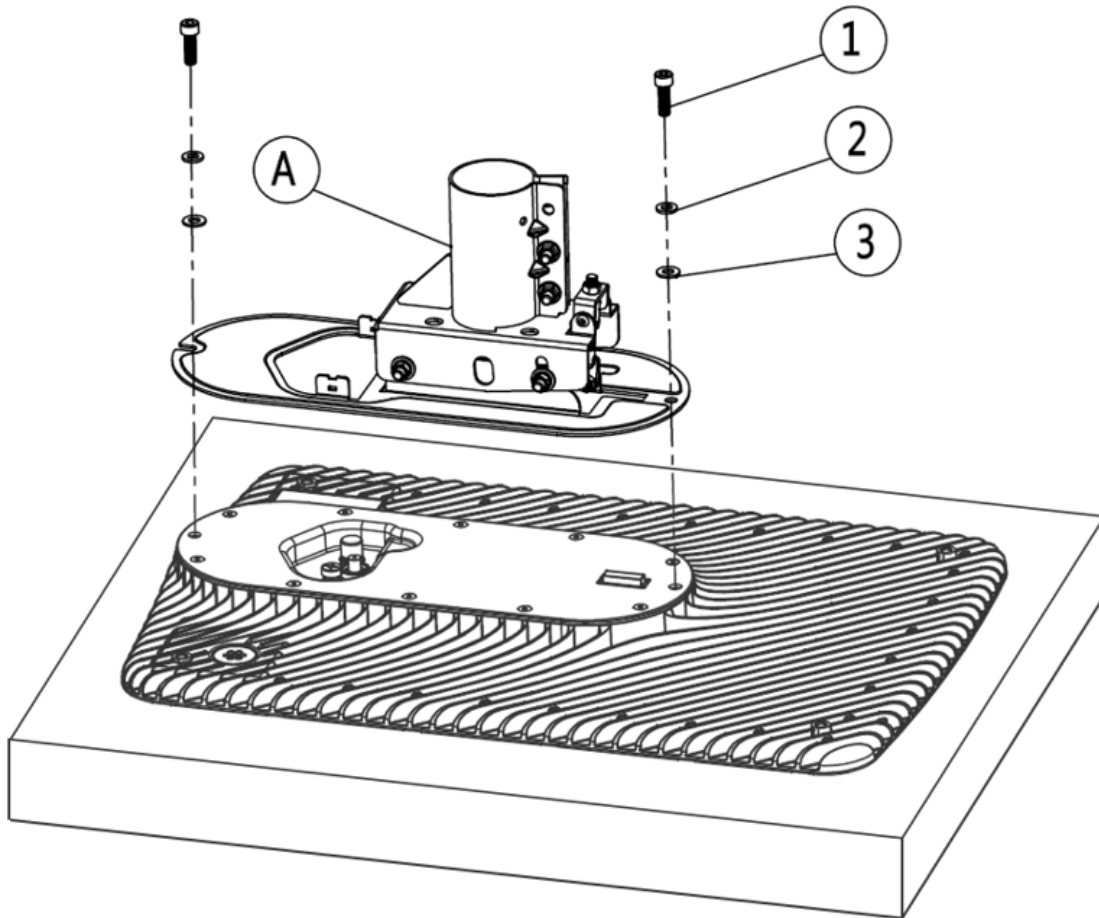

Figure 40: Installing the mount adapter to the ODU
10. Install the Jonsa-OW mount adapter (A) by carefully resting the ODU antenna on the packaging foam insert to protect the hydrophobic coating on the top surface of the ODU. Align the front and rear mounting holes from the mount adapter plate, as shown in Figure 40, and secure it using two M8x25 socket head screws (1), two lock washers (2) and two flat washers (3). Tighten to 18 lbf-ft using the Allen wrench.